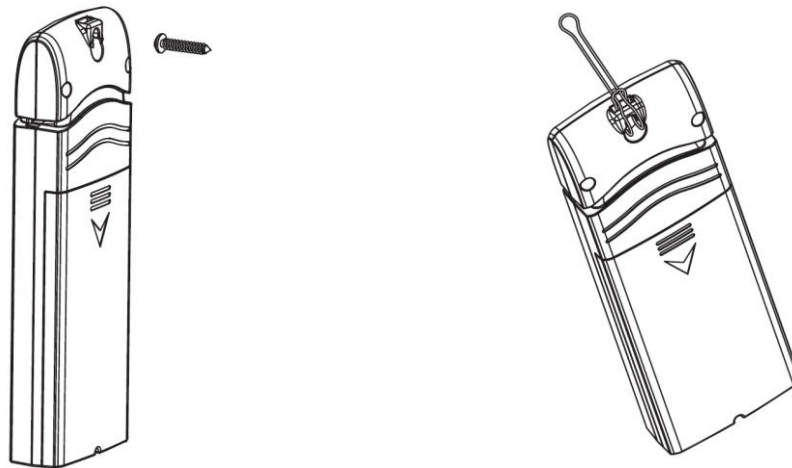

Figure 19
2. Hang the remote sensor up on string, as shown in Figure 19.